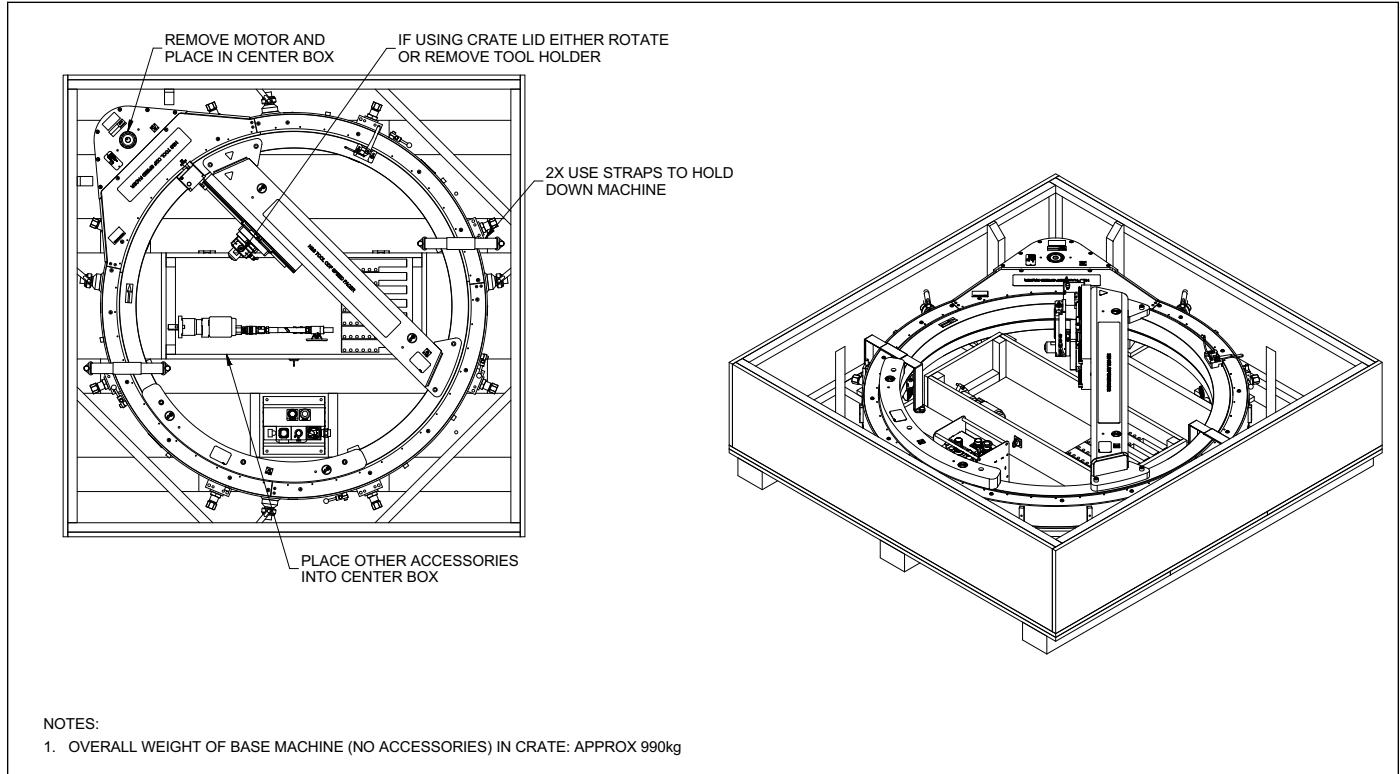

FIGURE 6-1. ODF50 CRATE
7. Store the ODF50 Speed Facer in its original shipping box (see Figure 6-1).
The ODF50 Speed Facer can be shipped in its original shipping container, as shown in Figure 6-1.